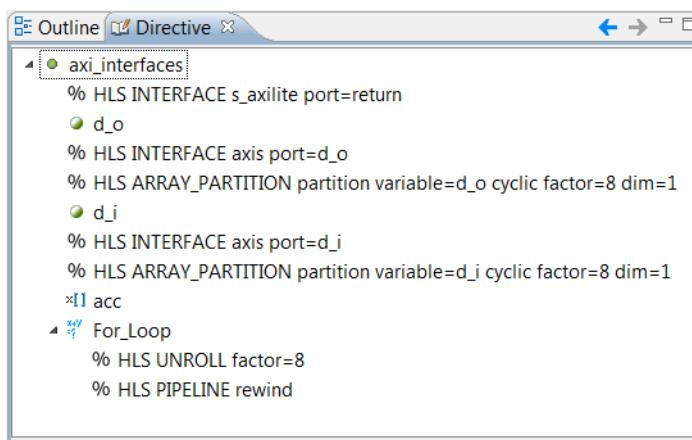

Figure 4-34: Directives for Specifying AXI4 Interfaces
7. In the performance section of the report, confirm that the for-loop processes one sample every clock cycle (Interval 1) with a latency of 3 (and max 4), and that the design has less area than solutions 2, 3, or 4 in Lab 3 (Figure 4-34).
The **Directives** tab appears, as shown in Figure 4-34.